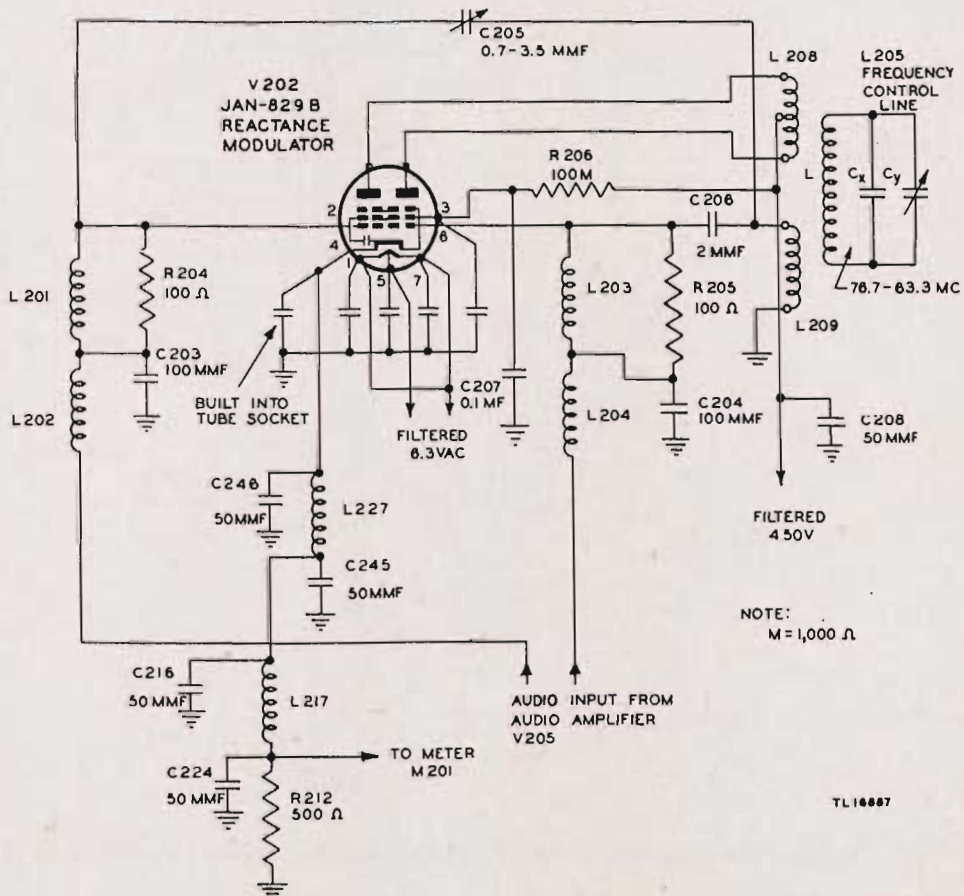

Figure 81. Radio Transmitter T-30/TRC-8 (XC-3), functional diagram of reactance modulator stage.
a. The reactance modulator is a Tube JAN-829-B (V202) which is connected so that when one half of the push-pull tube appears as a capacitive reactance the other half appears as an inductive reactance. Since the grids are operating push-pull, or 180° out of phase with each other as regards the audio voltage (fig. 81), the inductive reactance will be increasing when the capacitive reactance is decreasing; both will be operating in a direction to lower the oscillator frequency. However, when the capacitive reactance is increasing in one half of the tube, the inductive reactance of the other half will be decreasing; both will be tending to increase the oscillator frequency. Thus variations applied to both halves of the tube simultaneously, such as power supply variations, hum, etc., cause no change in oscillator frequencies, since these effects are in phase and cancel out. Audio signals however, applied to the tube in push-pull, are out of phase and the reactive changes they produce cause corresponding changes in oscillator frequency. A level of 100 percent modulation pro-